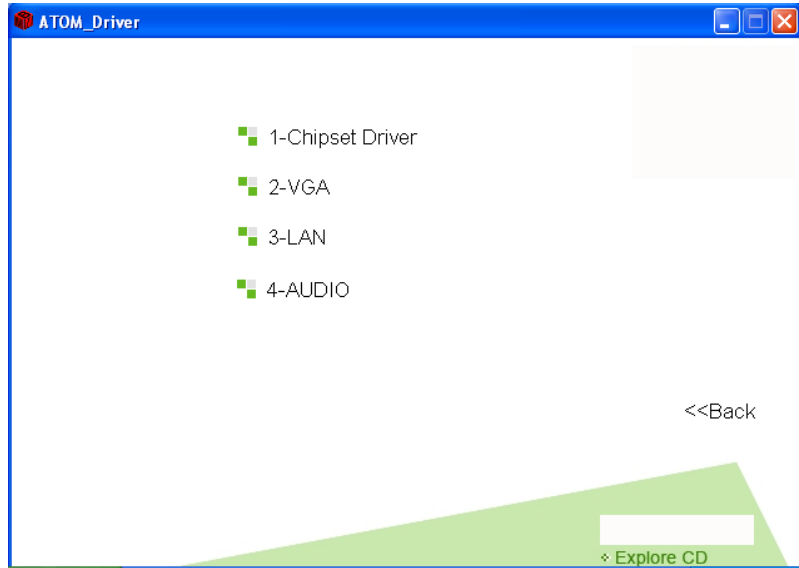

Figure 7-3: Drivers
Step 6: The list of drivers in Figure 7-3 appears.
Step 1: Access the driver list shown in Figure 7-3. (See **Section 7.2**)